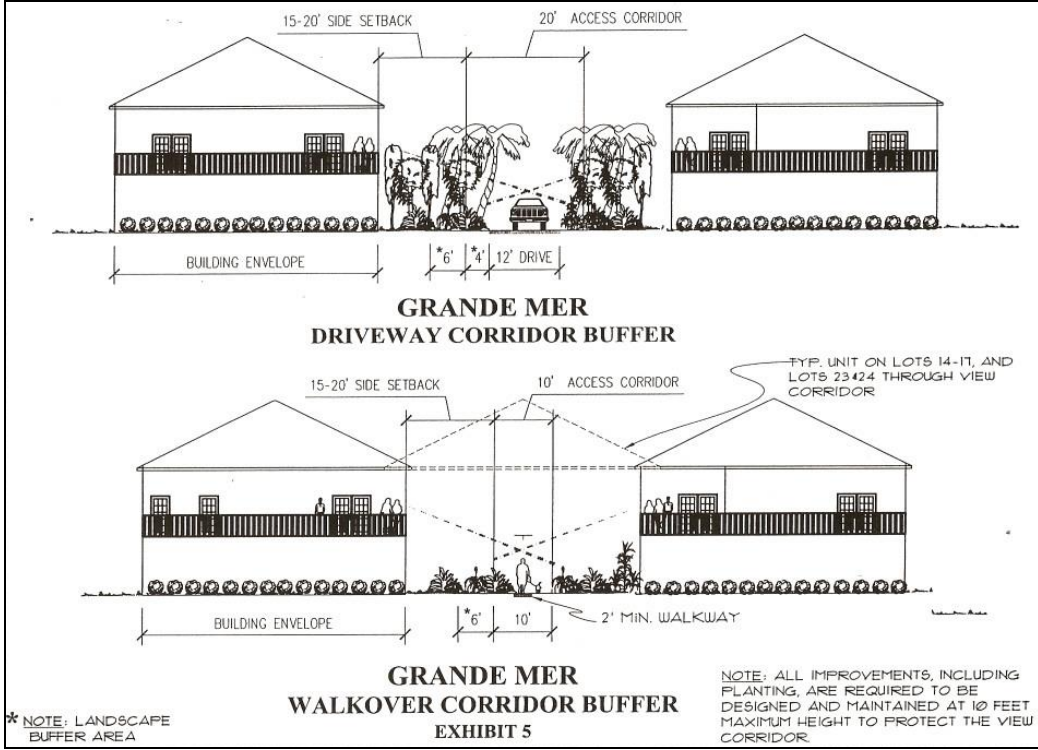

FIGURE 4
A continuous visual buffer shall be provided adjacent to walkway corridors. The buffer shall consist of plants, mounds, walls or fences so that the privacy of the lots is maintained. Landscape and mounding buffers shall be a minimum of six (6') feet in height and six (6') feet in depth. New plantings, preserved existing vegetation, or a combination of both can serve to fulfill the buffer requirement. A fence or wall buffer shall be sized to provide a similar degree of privacy and shall conform to the "Fences and Walls" section of this manual. FIGURE 4 illustrates a walkway corridor buffer. If the fence or wall option is used, some landscape shall be incorporated into the design.
A landscape buffer shall be provided within the driveway corridors and shall consist of a four (4) foot evergreen landscape buffer on each side of the driveway. FIGURE 4 illustrates a driveway corridor buffer.
A visual buffer shall be provided adjacent to the driveway corridors. The buffer shall consist of plants, mounds, walls or fences along the driveway corridor, stopping at the front and rear yard setbacks. Landscape evergreen buffers shall be a minimum of four (4') feet in height and six (6') in depth. New plantings preserved existing vegetation, or a combination of both can serve to fulfill the buffer requirement. A fence or wall buffer shall be sized to provide a similar degree of privacy and shall conform to the "Fences and Walls" section of this manual. If the fence or wall option is used, some landscape shall be incorporated into the design. FIGURE 4 illustrates a driveway corridor buffer.